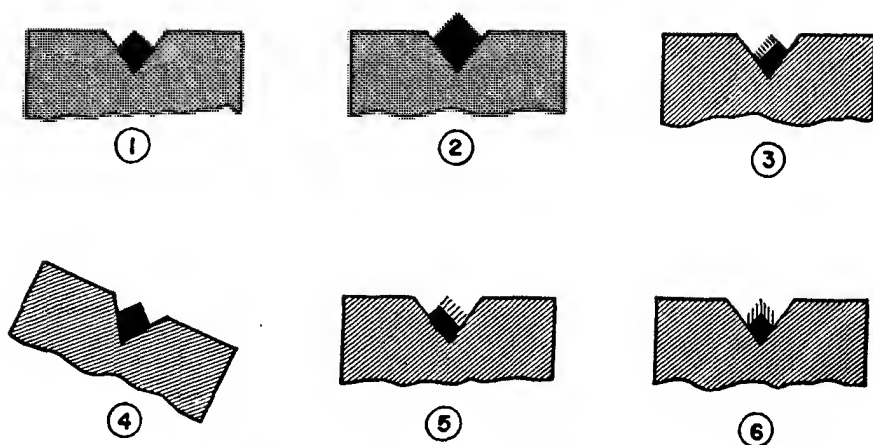

Figure 5.—Method of using German sights. (① illustrates correct sight picture; ②, firing high; ③, low and right; ④, low and right; ⑤, lower left; ⑥, low shot.)
(4) *Sights*.—This pistol has an open V notch rear sight and an inverted V front sight. The sights should be aligned as in figure 5 ①.